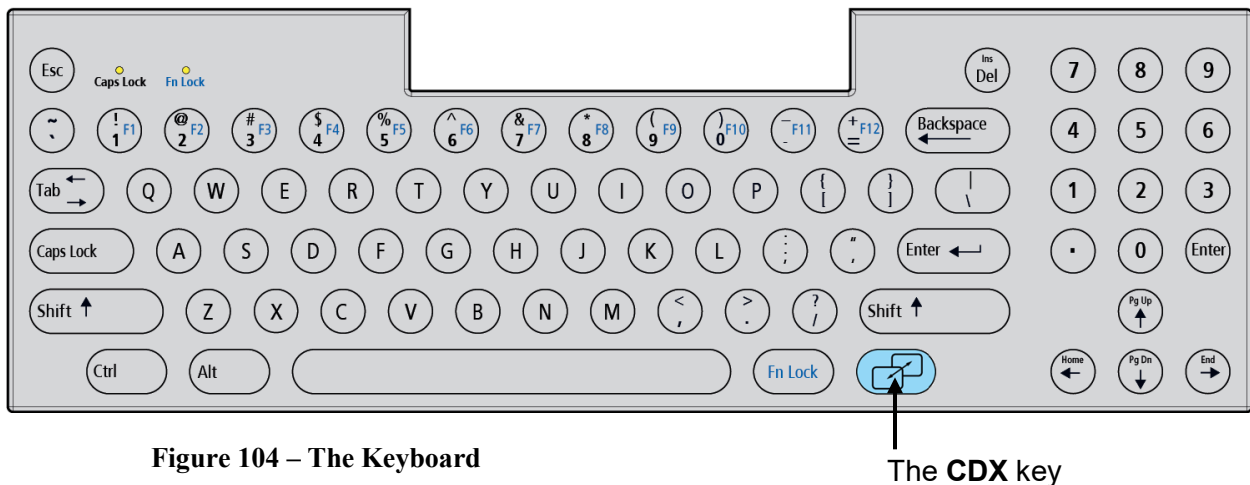

Figure 104 – The Keyboard
The Clinical Data eXchange (CDX)TM system is an independent PC that is built into the 2008T hemodialysis machine. The CDX PC can run software programs that are displayed on the 2008T display screen and accessed with the keyboard, touchscreen, and touchpad like any other personal computer (PC). Pressing the blue **CDX** key on the keyboard (see Figure 104) will switch between displaying Dialysis/SLED and CDX.
1. Press the **Power** key on the 2008T hemodialysis machine to start the machine. While on the “Select Program” screen, press the blue **CDX** key on the keyboard (see Figure 104). CDX will be displayed.